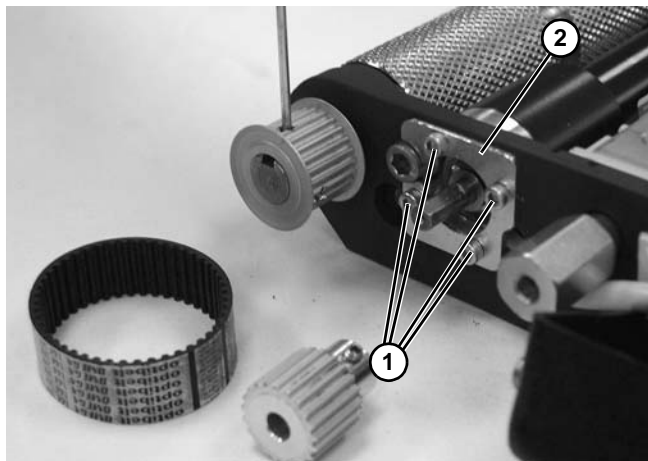

Figure 74
7. Remove four clamp plate screws (**Figure 74, item 1**) and clamp plate (**Figure 74, item 2**).